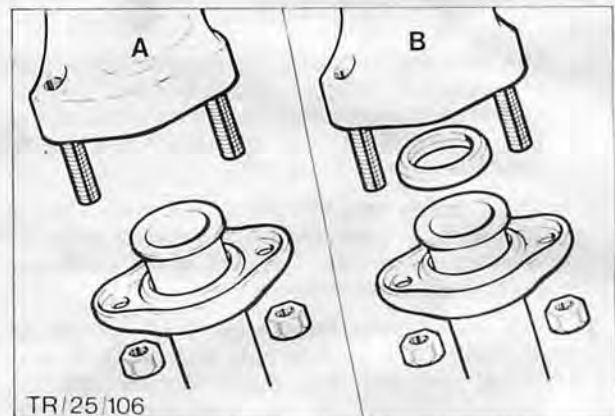

Fig. 24. Exhaust manifold front down pipe clamp
2. Disconnect front down pipe from exhaust manifold and allow clamp ring to slide down pipe, to clear securing studs. On petrol variants only, remove sealing ring, Fig. 24.